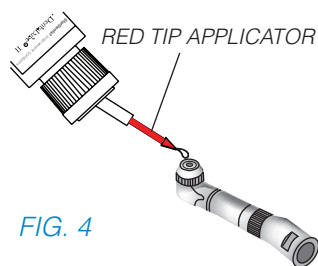

FIG. 4
- Place a drop of DentaLube II down the center of the hollow cartridge shaft (allow a few seconds for the lubricant to drain down the shaft). (See FIG. 4)